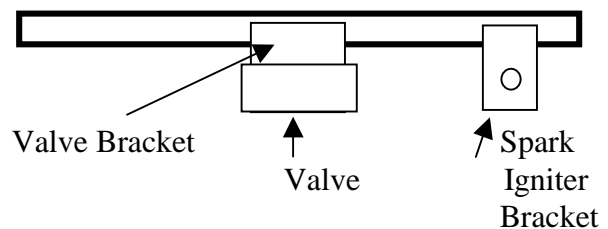

Fig. 4
Align the bracket on the combustion air pan located on the front center of the unit directly in from the lower grill. Use the (2) #10 self drilling and tapping screws provided to attach the bracket. Fig. 4.
Next attach the spark igniter bracket using the (2) #10 self drilling and tapping screws provided. The bracket needs to be located to the far right of the Combustion Air pan. See fig. 4. When locating the bracket make sure